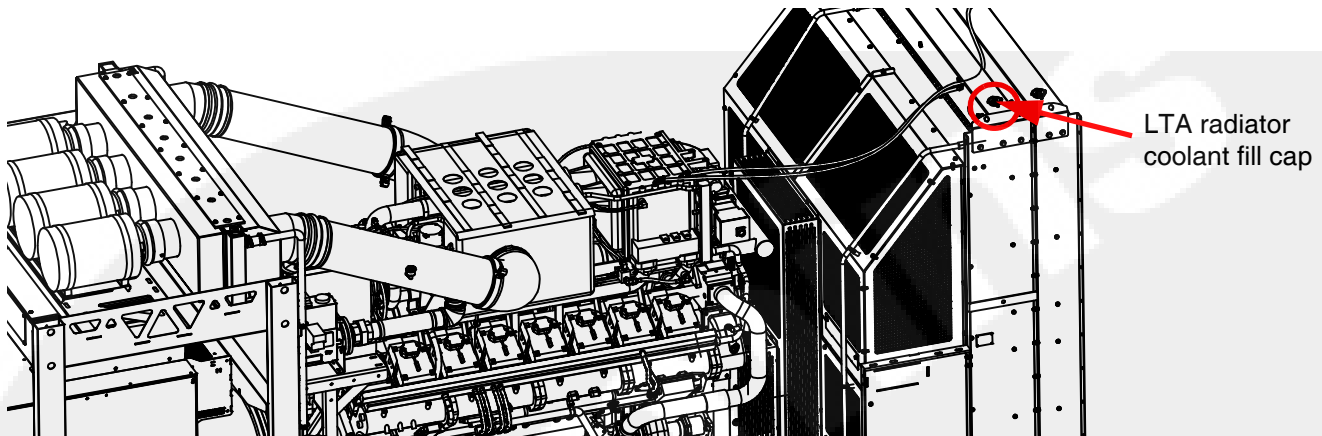

Figure 5-9 LTA radiator coolant fill cap (GenSet right side)
5. As shown in Figure 5-9, twist the LTA fill cap counter-clockwise and open the LTA radiator fill port.